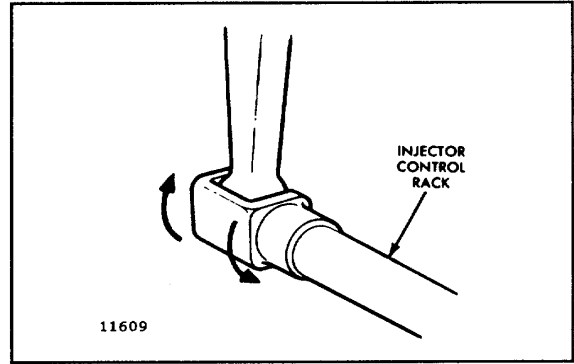

Fig. 3. - Checking Rotating Movement of Injector Control Rack
5. To be sure of the proper rack adjustment, hold the stop lever in the *run* position and press down on the injector rack with a screwdriver or finger tip and note the "rotating" movement of the injector control rack when the stop lever is in the *run* position (Fig. 3). Hold the stop lever in the *run* position and, using a screwdriver, press downward on the injector control rack. The rack should tilt downward and, when the